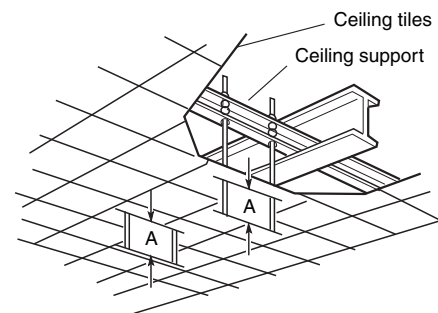

Fig. 3-133
- b) Use existing ceiling supports or construct a suitable support as shown in Fig. 3-133.